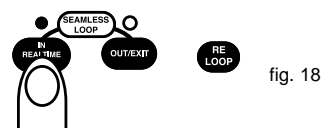

fig. 18
- (2) Press IN REAL TIME CUE BUTTON (19). This sets the starting point of the SEAMLESS LOOP. The IN REAL TIME CUE'S BUTTON LED will light (figure 18).